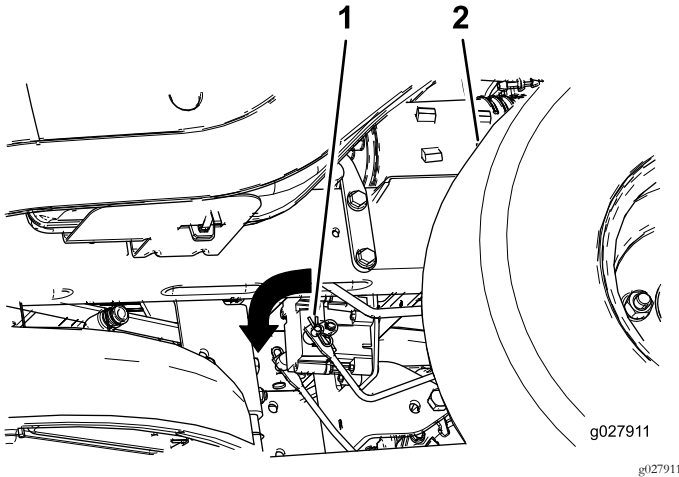

Figure 45
2. Locate the shaft on the electric brake where the brake link arms are connected (Figure 45).